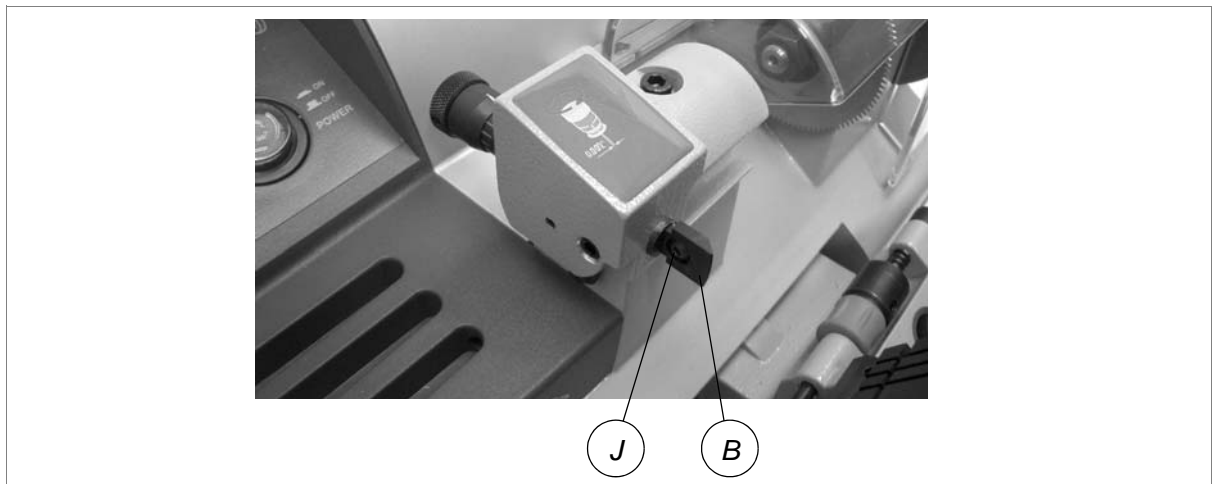

Fig. 23
- 2) Loosen and remove the screw (J) and remove the tracer point (B) (fig.23).
- 3) Place the new tracer point in position and fix with the screw (J).